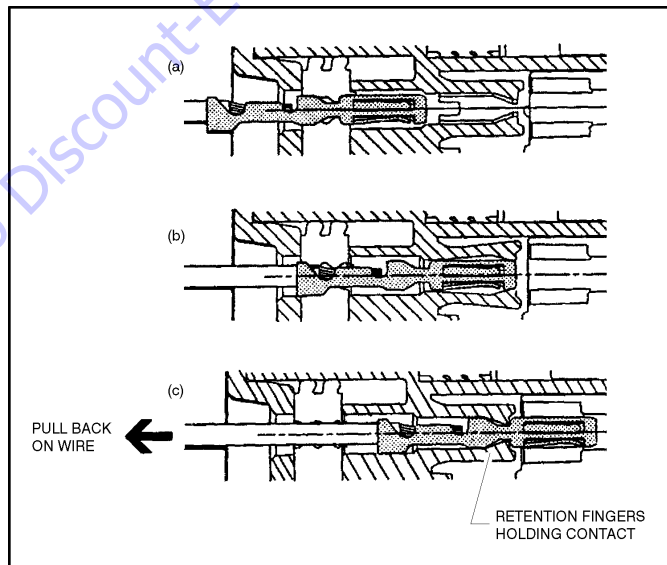

Figure 3-7. Connector Assembly (2 of 4)
1. To insert a contact, push it straight into the appropriate circuit cavity as far as it will go (See Figure 3-7. Connector Assembly (2 of 4)).
2. Pull back on the contact wire with a force of 1 or 2 lbs. to be sure the retention fingers are holding the contact (See Figure 3-7. Connector Assembly (2 of 4)).